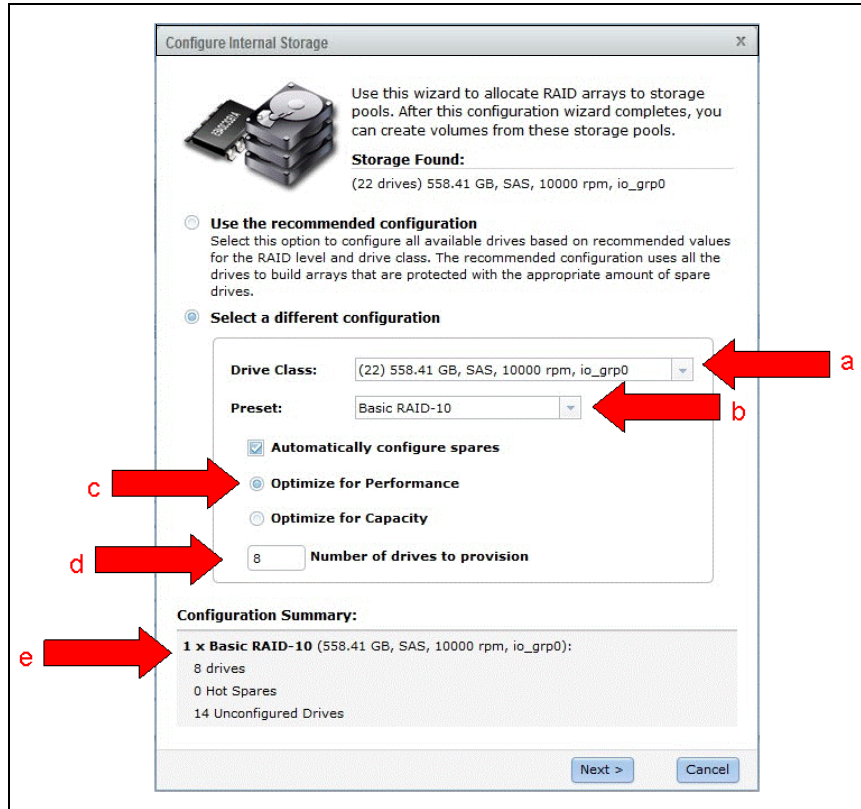

Figure 9-6 Configure Internal Storage window
4. The Configure Internal Storage window is displayed. The default settings are shown in the window. Proceed as shown in Figure 9-6 on page 131: